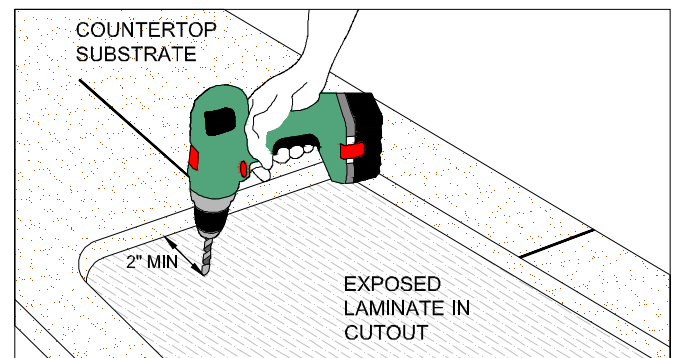

Figure 20D
- Drill a  $\frac{1}{2}$ " or larger pilot hole approximately 2" from inside edge of sink cutout. (FIG. 20D)